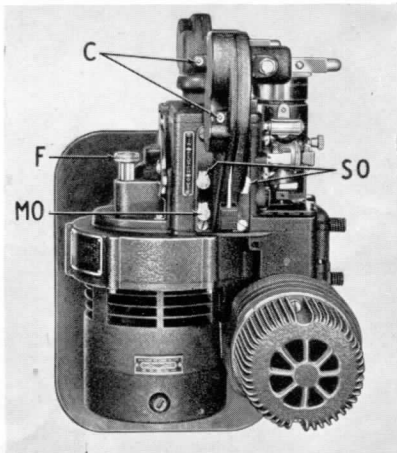

FIGURE 6
**Projector Lubrication.** The main oil cup MO should receive one drop of oil after each 8 hours of operation. Cups SO should receive one drop of oil after every 32 hours of operation, see Figure 6. The sprockets D, Figure 4 should be saturated with oil every six months. To saturate these felts, have the projector disconnected from the
line and lay it on its side. Insert the tip of the Filmo oil can into the holes D, Figure 4, and squeeze the sides of the oil can about three times. The feed and take-up reel arm spindle bearings, C, Figure 6, should be oiled after every 32 hours of operation. Push spring ball down with oil can spout.